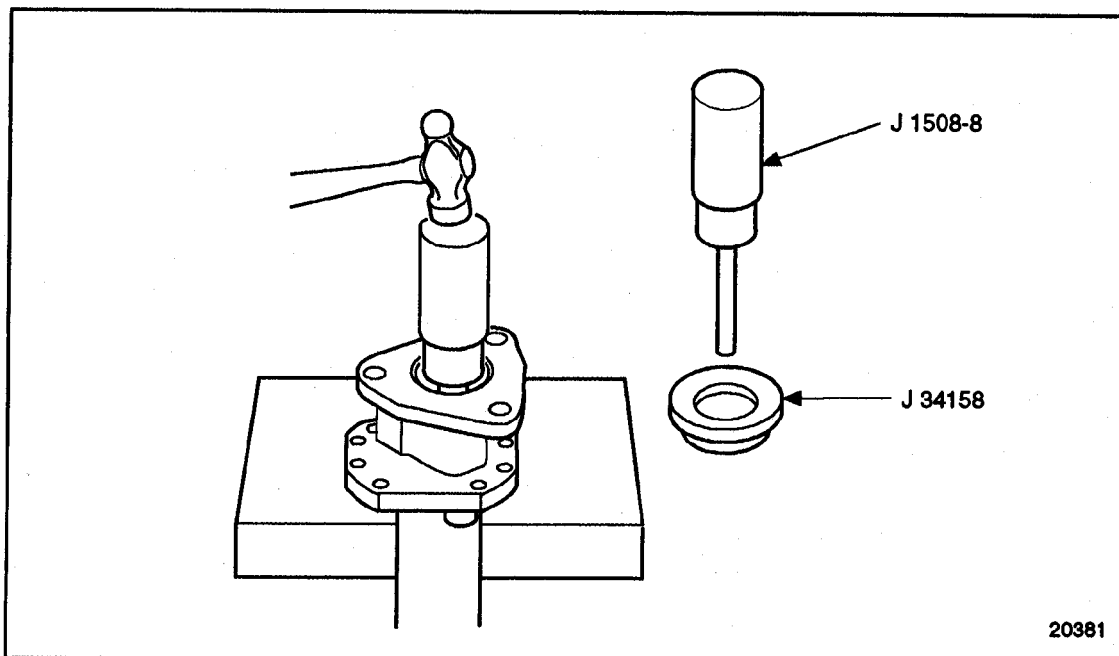

Figure 2-35 Installing Inner Oil Seal
4. Support the pump body on wood blocks, hub side up, and insert the pilot into the shaft bore positioning the seal on the bore. Use a light hammer and drive the seal into the bore until the adaptor is bottomed against the pump body. See Figure 2-35.